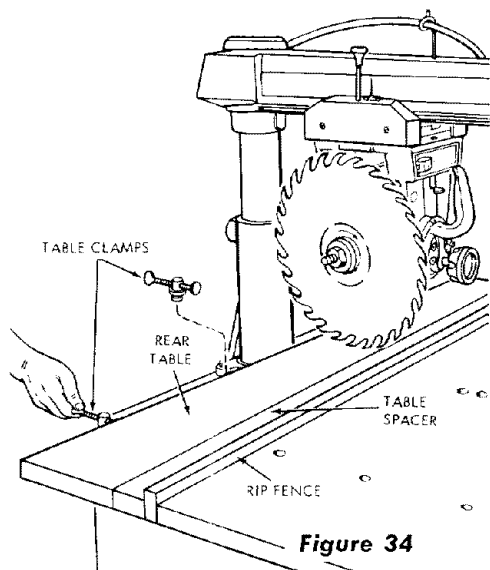

Figure 34
- a. Install the fence, rear table, table spacer and three table clamps. (See figure 34.)